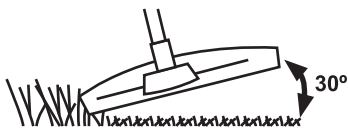

Fig. 19a
- 5). Hold the trimmer head just above the ground at an angle of approximately 30°. (See Fig. 19a)